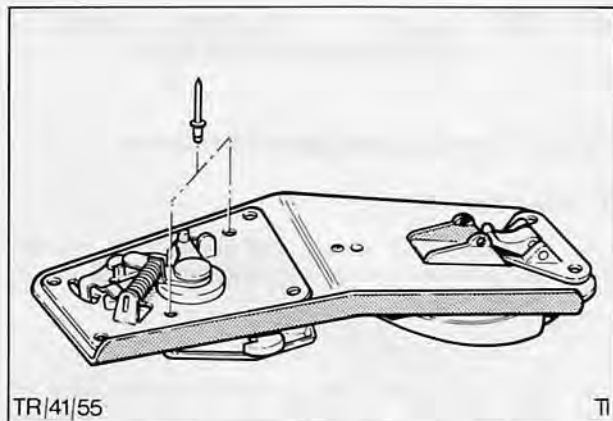

Fig. 38. 'Pop' rivet location, lock assembly to lockplate
4. Position lock assembly on lockplate and secure with two pop rivets, Fig. 38.